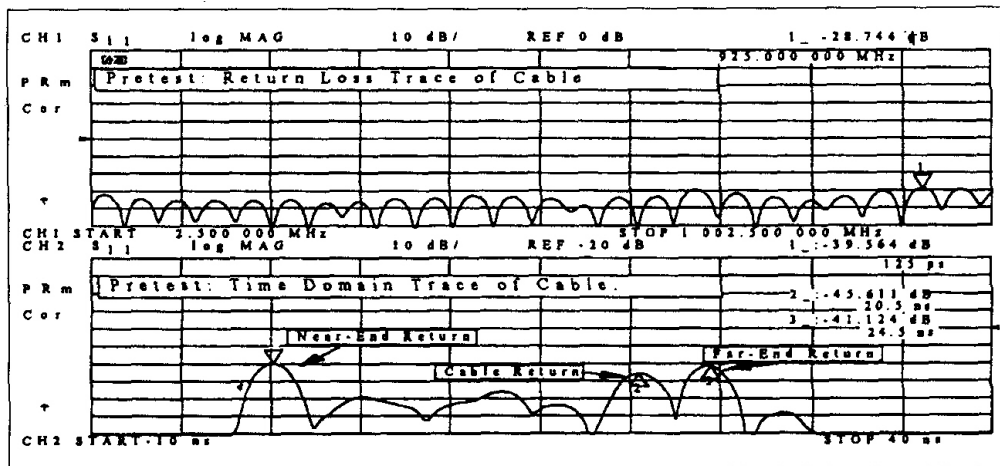

Figure 2 – Pre-Test Measurement of Cable Assembly
- 5.4 Connect the cable from 4.1 to the network analyzer. Be sure to properly dress the center conductor to avoid damage to the precision “F” test adapter. Be sure a proper termination is applied at the far end of the cable. Check the reflection trace, there should be a ripple pattern in the return loss indicating the beat pattern of the near end cable connection and the far end termination. A typical trace is shown in the upper part of Figure 2. Under the Transform menu, the time domain transform can be turned ON to see the time domain response of the cable and connections. With time domain on, set the start time to –10ns, and the stop time to 40ns. You should see two returns, one from the near end, and one from the far end. Any returns from the cable should be less than 0.03 reflection coefficient (-30 dB), and the near and far end returns should be less than 0.1 (-20 dB). Any defects in the cable or the connections greater than these values may degrade the measurement. The lower trace of Figure 2 shows a typical domain trace. This pre-test ensures that the cable and end connectors are of sufficient quality to test the in-line “F” connectors. Turn the TRANSFORM OFF when the pre-test is complete.